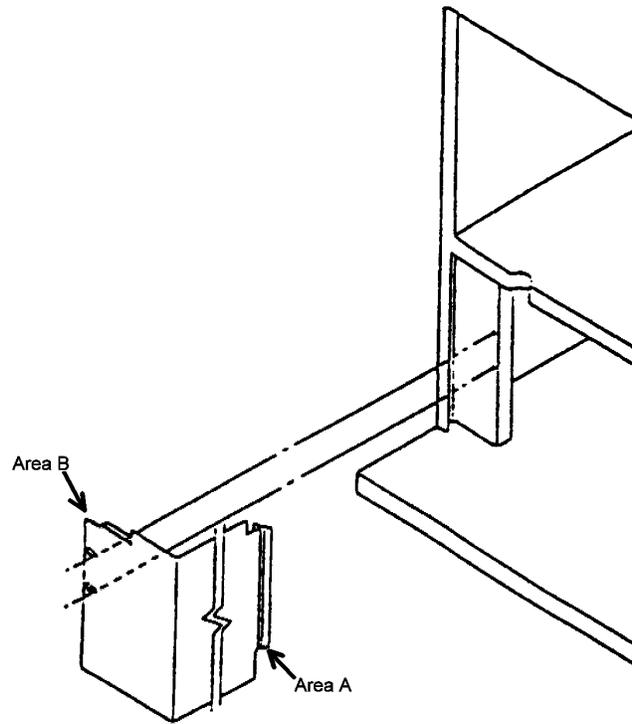

Figure 4
16. On Ranson built venders with plastic or cardboard baffles, install the new left metal baffle (805,800,68x.x1). See figure 4, page 7. To install:
- a. Hook right side baffle (area "A", figure 4, page 7) over the edge of the condenser fan shroud.
- b. Secure the left side of the baffle (area "B", figure 4, page 7) with two No. 8 self drilling screws by tightening the screws and then back screws off two turns to allow the baffle to be removed without tools.